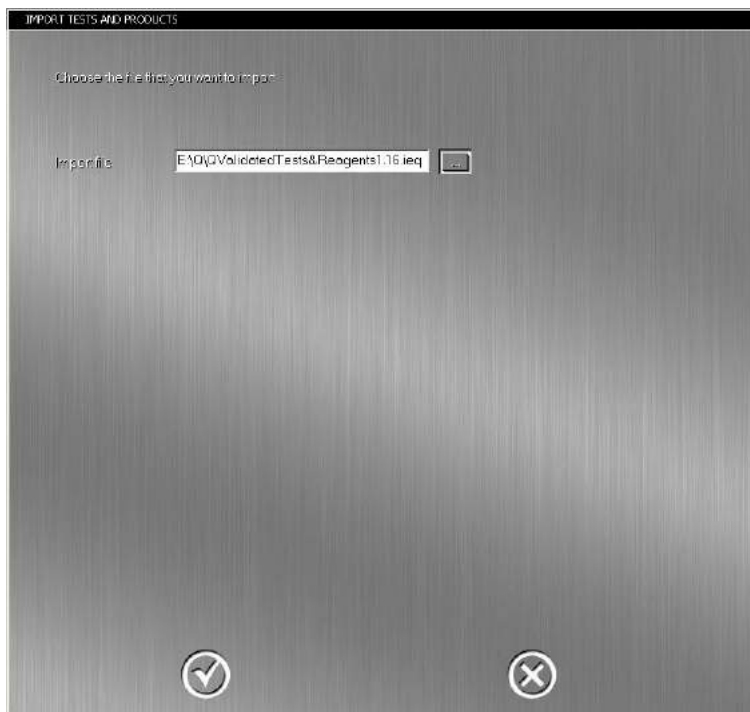

Figure 9.41. Importing New Tests and Products. Step 1
- Browse the file “QValidatedTests&Products_x.y.ieq” (e.g. in a **USB data storage device**) and press **Accept** (Figure 9.41).